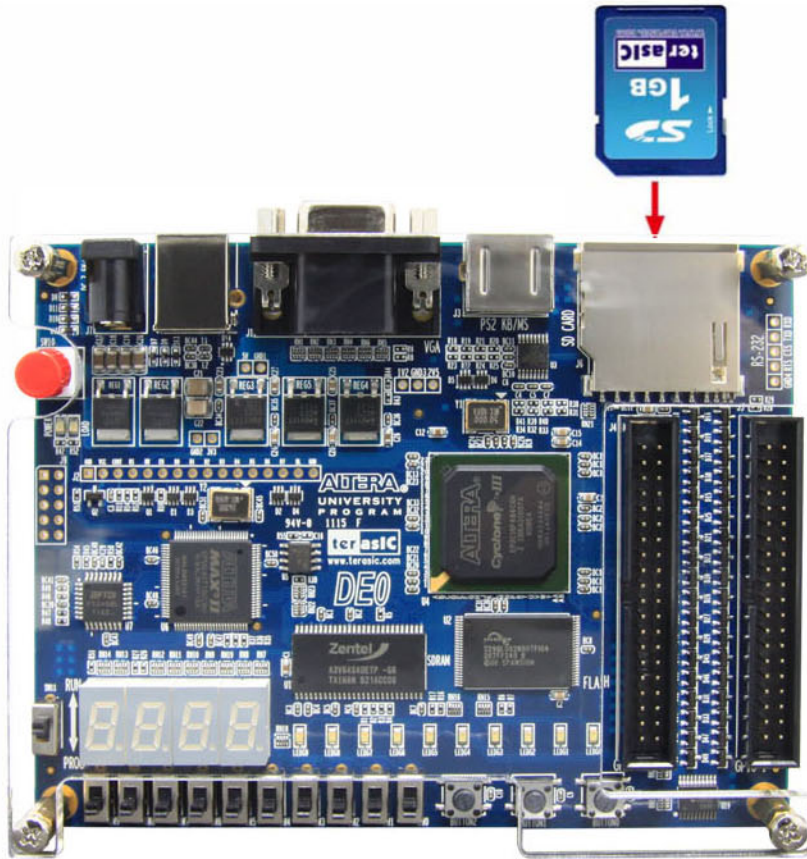

Figure 5-3. Insert SD Card for the SD-Card Demonstration
- Insert the SD card into the SD Card socket of DE0, as shown in Figure 5-3.